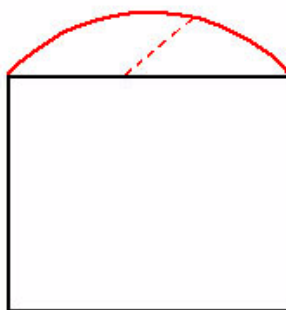

Figure 153
- Click and drag the middle of a segment to create an arc. See figure 153.